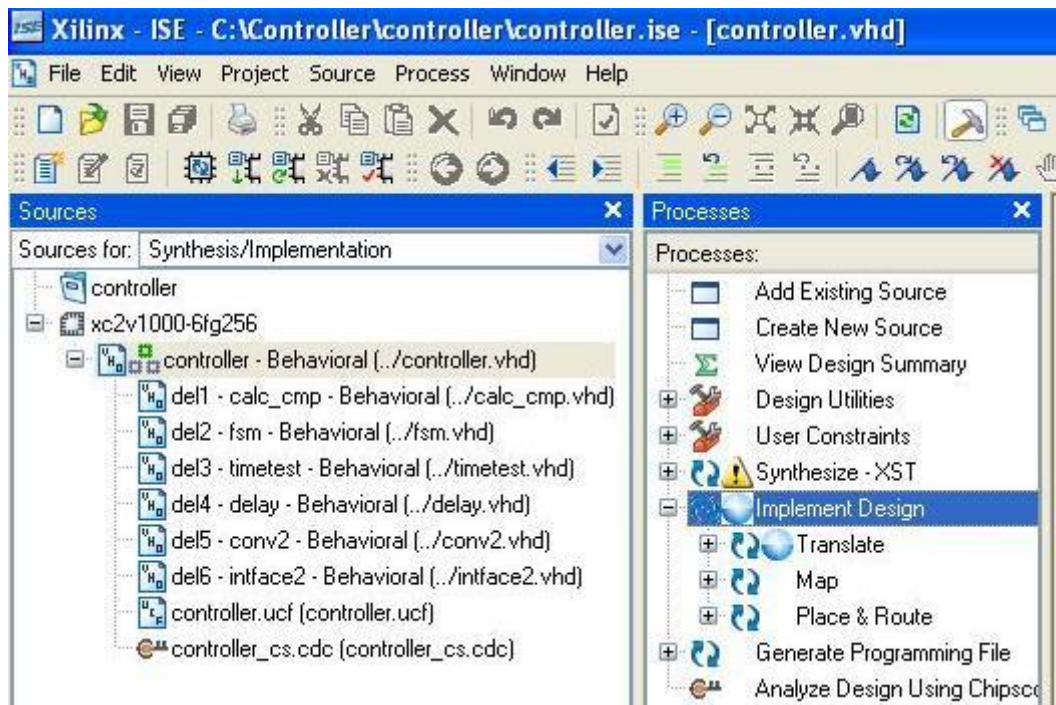

Fig 3.21: Implementing Design
2. Now select the top module in sources window and double click on the **Implement Design** in Processes tab which can be seen in the Fig 3.21.